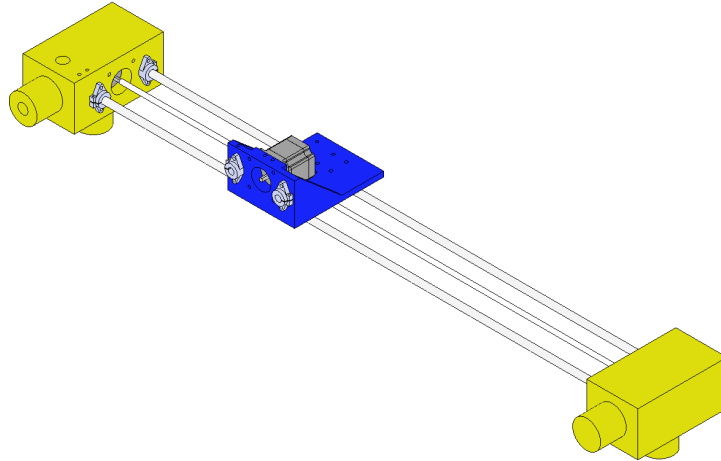

Figure 16: Left Y-Axis assembly for the GPR-20 robot.
10. This step will make use of both the *Y-Axis left driver*, *Y-Axis left auxiliary support* and the *X-Axis driver* assemblies. Attach two (2) linear rods to the SHF12 supports in the *Y-Axis left auxiliary support* and secure them with the supports' tightening screws. Attach the eight (8) millimeter lead screw to the KFL08 bearing and secure it with the tightening screws. Insert the *X-Axis driver* assembly into the linear rods and move it by rotating the lead screw. The *X-Axis driver* must clear the linear rods in order to install the *Y-Axis left driver*. Attach the linear rods to the *Y-Axis left driver* and secure them with the tightening screws. Attach the lead screw to the motor shaft using a coupler. The assembly of the left Y-Axis is shown on figure 16.